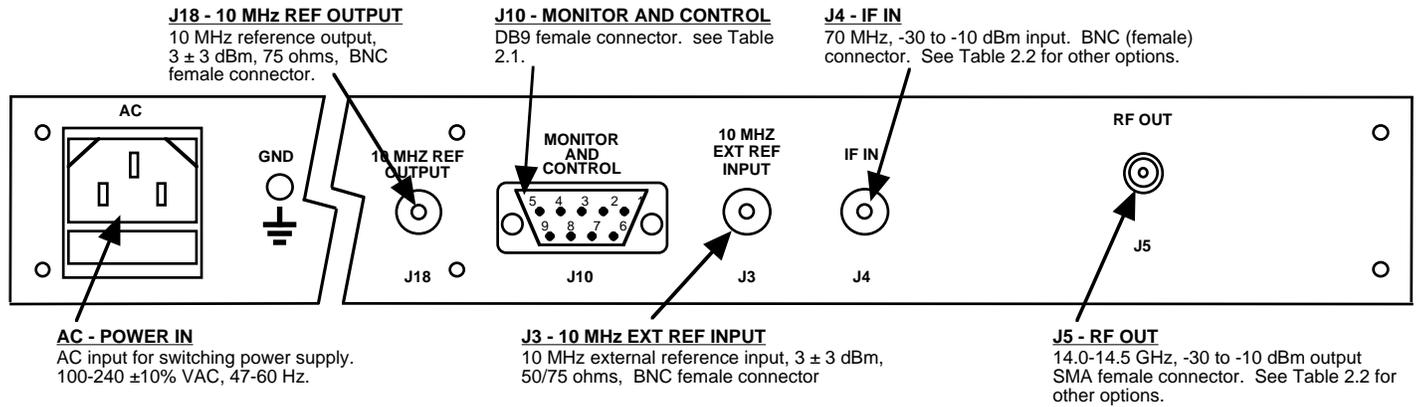

FIGURE 2.2 2015-145 Rear Panel Inputs and Outputs
2.2 Rear Panel Input / Output Signals - Figure 2.2 shows the input and output connectors on the rear panel.
1. Connect a -30 dBm to -10 dBm, 70MHz signal to IF IN, J4 (Figure 2.2)
Alarm indications appear on the LEDs (see figure 2.2).